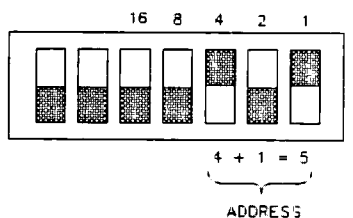

Figure 4-4. Plotter Address Set to 5
2. Set the plotter to address 5 (see Figure 4-4). If you cannot locate the address switch on the plotter, refer to the plotter's operation manual. If you want to use a different plotter address for remote operation, be sure to modify the examples accordingly. Remember, to generate plots from the spectrum analyzer front panel, you must reset the address to 5.